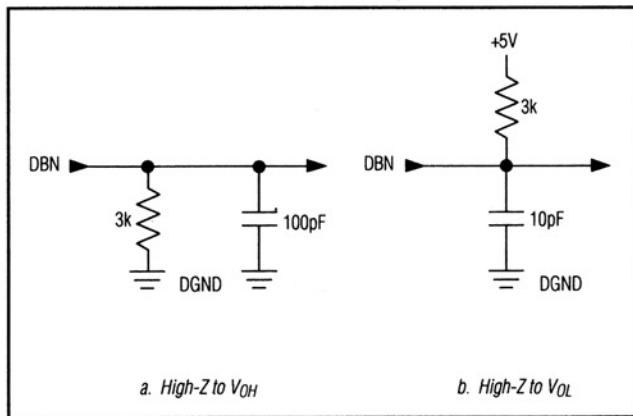

図2. データホールド時間テスト用の負荷回路
**Note 7:** Defined as the time required for the data lines to change 0.5V when loaded with the circuits of Figure 2.